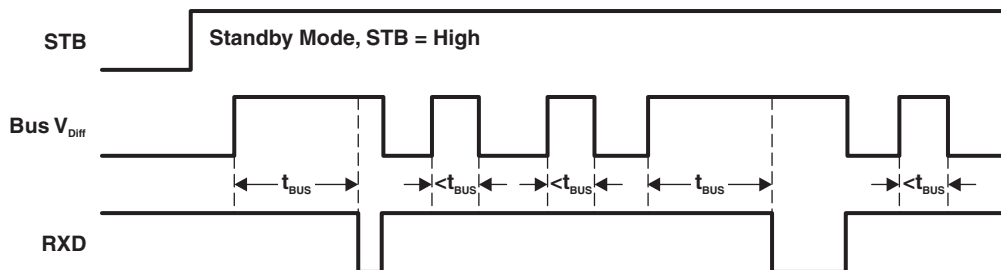
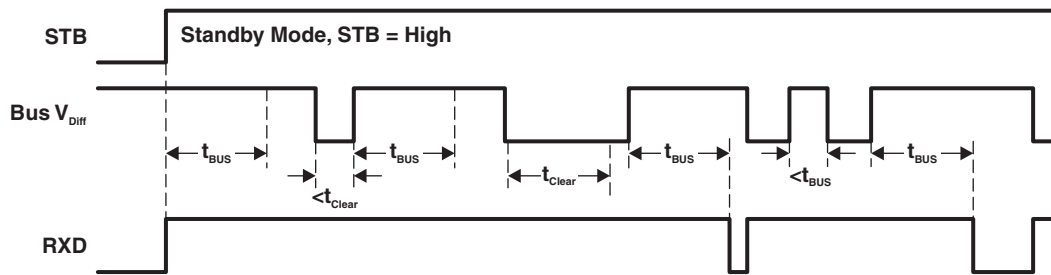

Figure 18. HVDA551 RXD Wake-Up Request With No Bus Fault Condition
Figure 19. HVDA551 RXD Wake-Up Request Lockout During Bus Dominant Fault Condition
(2) See Figure 18 and Figure 19 for operation of the low-power wake-up receiver and bus monitor for RXD wake-up request behavior and Table 5 for the wake-up receiver threshold levels.
(3) When V_{IO} is undervoltage, the device is forced into standby mode with respect to the CAN bus, because there is not a valid digital reference to determine the digital I/O states or power the wake-up receiver.
(1) Mirrors bus state: LOW if CAN bus is dominant, HIGH if CAN bus is recessive.
(1) H = high level, L = low level, X = irrelevant, ? = indeterminate.
(2) While STB is high (standby mode) the RXD output of the HVDA551 functions according to the levels above and the wake-up conditions shown in Figure 18 and Figure 19.